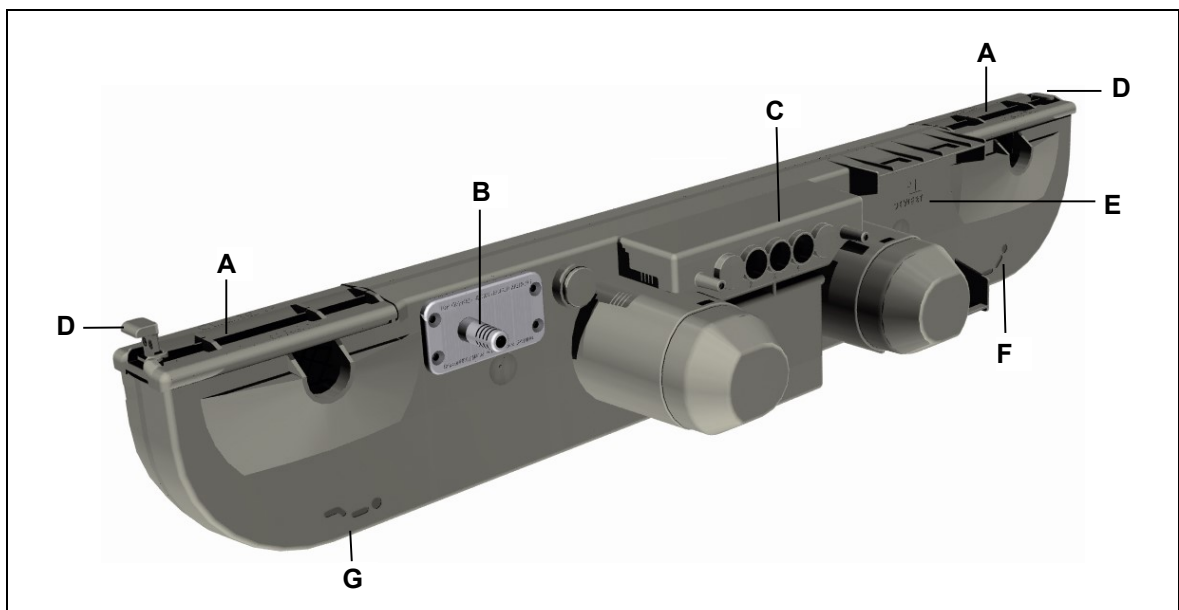

Figure 4 Main components of the DUOMAT 7
3 Pull out the optional snap-in locking device (refer to in Figure 4) until it reaches the end stop.
- 5 Align the DUOMAT 7 next to your product. The slots for the head and foot sides must be properly aligned with the correct brackets on your product (refer to the symbols on the DUOMAT 7 as described in Figure 4).
- 8 Close the optional locking device by pressing it down (refer to Figure 4).